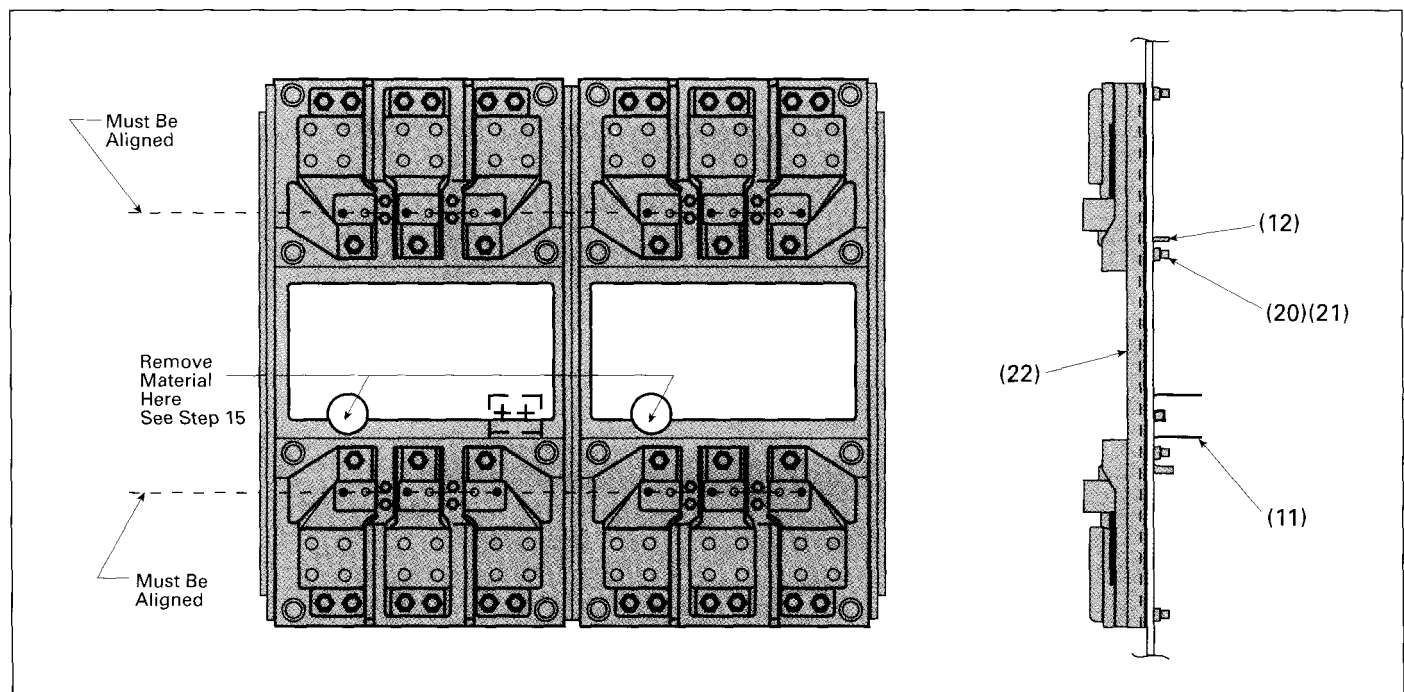

Figure 3
- L. Mount the two Cat. No. MB9301 connect-all mounting block assemblies in accordance with the MB9301 Installation Instructions (Pc. No. 73632). Reference Fig. 3. Use a straight edge to confirm that the connect-all assemblies are aligned in the vertical plane. Adjust if necessary.
- N. Reference Fig. 3. The mechanical interlock pan (Item 12) must be attached to the connect-all assemblies in the position shown to provide a mounting surface for the interlock and to insure dimensional stability between the two interlocked circuit breakers. Install the interlock pan after removal of the eight 3/8" hex. head nuts and washers, (Items 20, 21). Reuse the nuts, flat washers and lockwashers to secure the pan. Torque to 230 lb-in.
- O. Reference Fig. 3. Material must be removed from both of the connect-all aluminum frames (Item 22) to provide clearance for the interlock plungers. Using the 1" diameter holes in the mechanical interlock mounting pan as template guidelines, file or rout the connect-all frames to obtain a complete 1" diameter clearance hole.